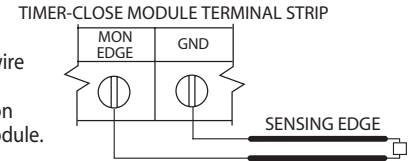

**Figure 10B**
- 6B) **Monitored** sensing edge connects to Timer-Close Module terminals (MON EDGE and GND) or to (ODC STB) terminals on main board through a Miller Edge Interface Module as shown in **Fig. 10B**.